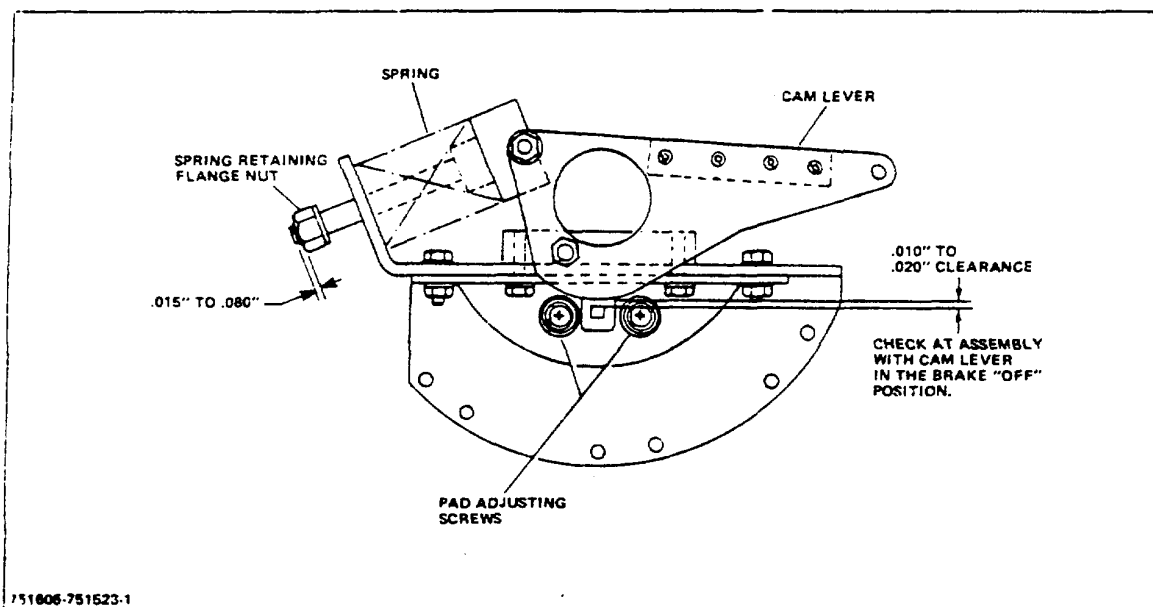
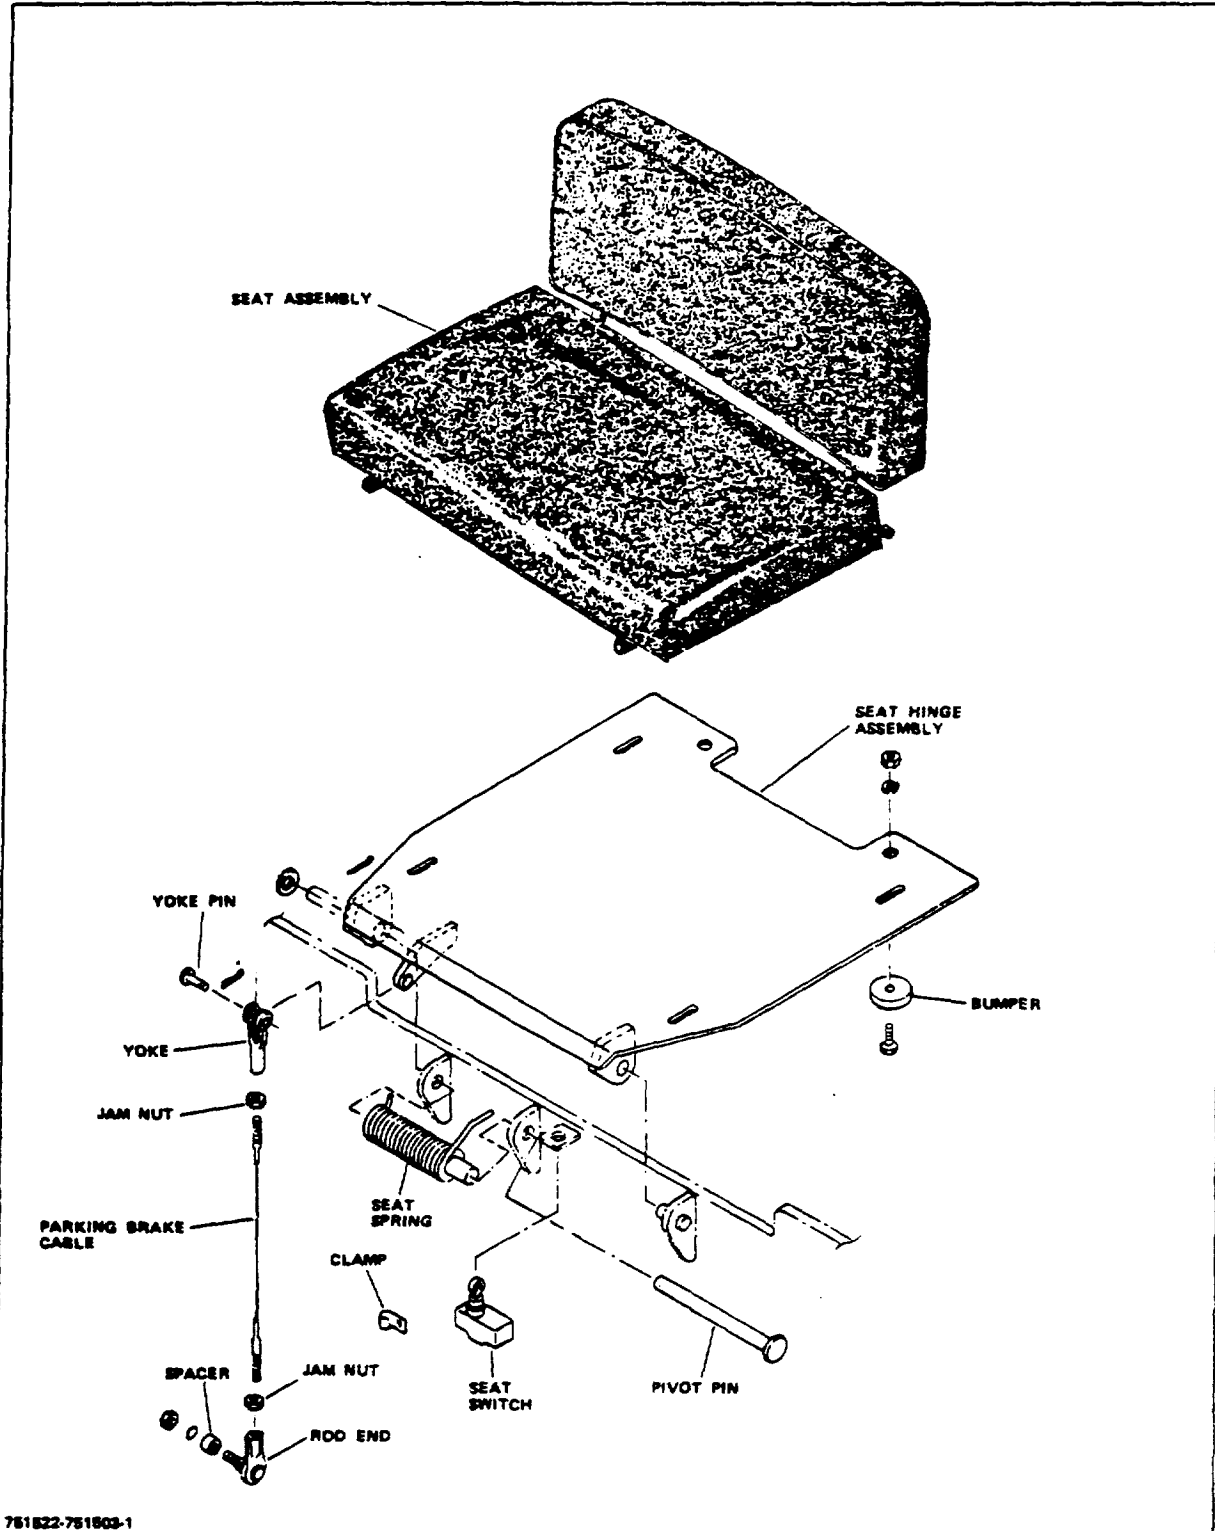
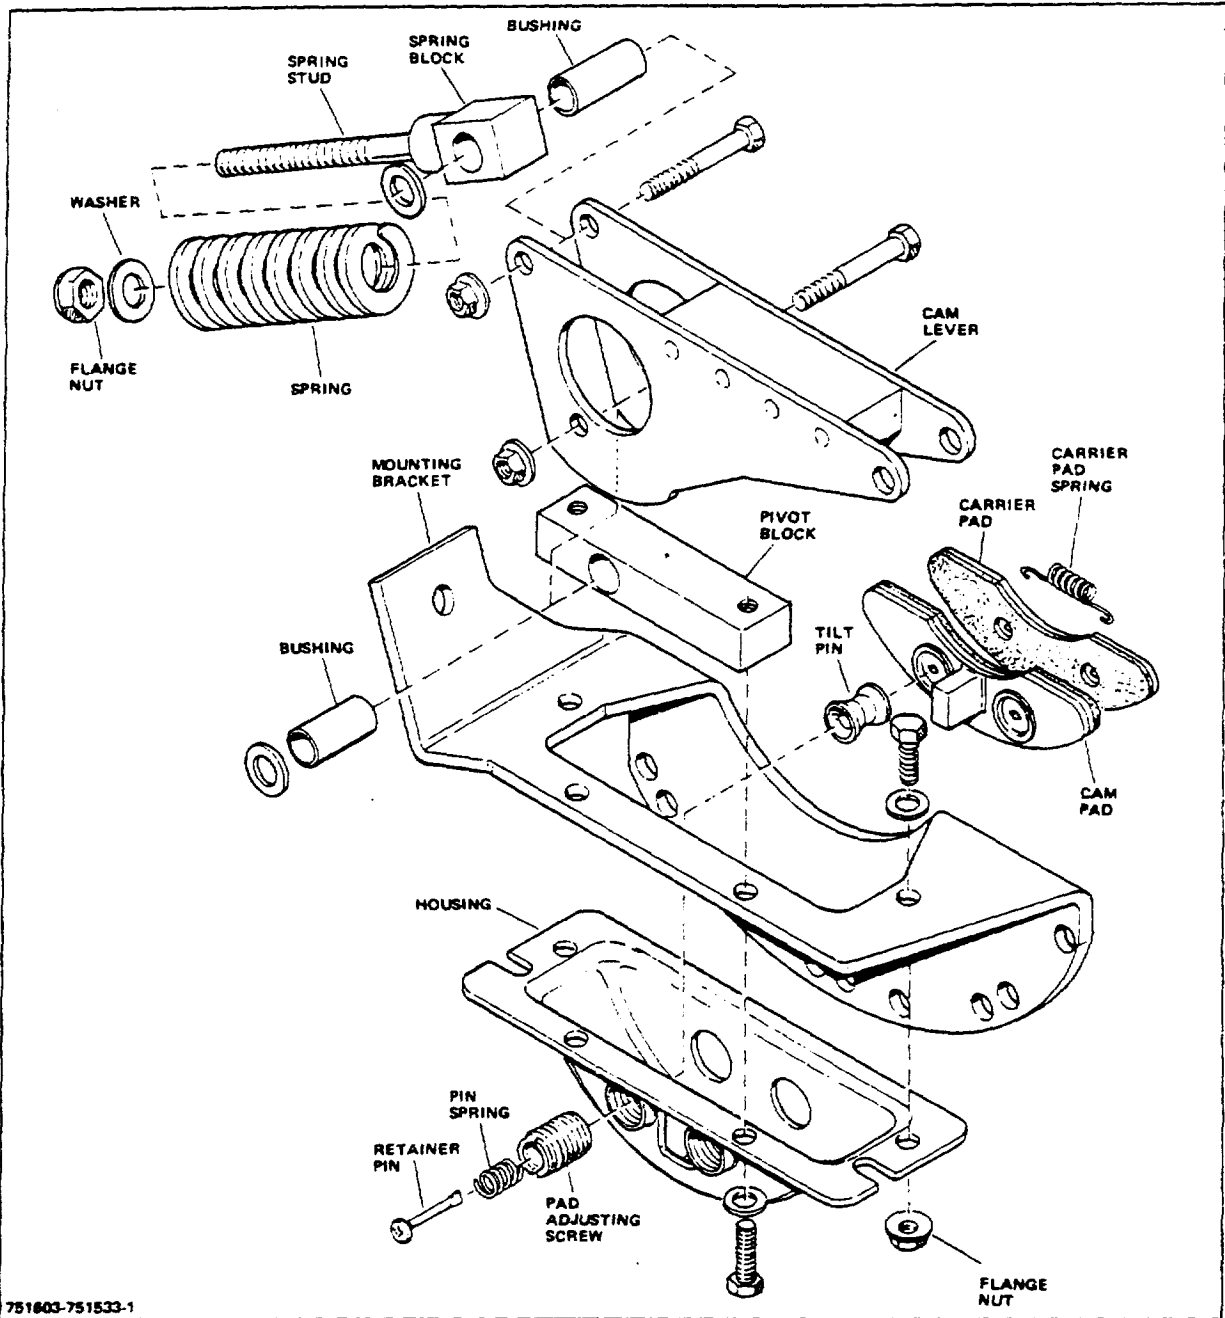

Figure 4-2. Parking Brake Adjustment
Figure 4-3. Parking Brake Cable and Seat Assembly
Figure 4-4. Disc Brake Assembly
adjustment, release parking brake by tightening the spring retaining flange nut (Fig 4-2) so the cam lever is in the BRAKE OFF position.
- Use a large screwdriver and adjust the pad adjusting screws (Fig 4-2) until screws are tight and brake pads contact the disc; then back off screws 1/4 turn.
- Back off the spring retaining flange nut until it is .015" to .080" from end of stud (Fig 4-2);
- Tighten spring retaining flange nut (Fig 4-2) until end of the cam lever moves upward enough to release tension on the parking brake cable. Then remove yoke pin (Fig 4-3) and yoke from the seat hinge assembly.
- Loosen jam nut and turn yoke clockwise to shorten cable length or counterclockwise to lengthen it. (For further adjustment, perform same adjustment at the rod end (Fig 4-3) of cable).
- Back off the spring retaining flange nut until it is .015" to .080" from end of the stud (Fig 4-2).
The seat switch (Fig 4-3) must be adjusted so the base of the seat hinge assembly contacts the switch roller when the seat cushion is fully depressed.
2. Tighten spring retaining flange nut (Fig 4-2) on the stud so large spring is compressed and the cam lever is in the BRAKE OFF position.
3. Remove nut, lockwasher, and spacer and disconnect rod end (Fig 4-3) from the cam lever.
After the disc is removed from the brake pad area, do not attempt to loosen the spring retaining flange nut (Fig 4-2) on the stud, otherwise damage could result to the retainer pins (Fig 4-4). Back off the spring retaining flange nut only after the disc brake assembly is installed on the motor with the disc in place.
When brake pads are replaced, remove the carrier pad (Fig 4-4) first.
2. Insert Phillips screwdriver into head of retainer pin (Fig 4-4). Hold cam pad in position with one hand and press down on retainer pin; turn retainer pin 90° to release it through slot in cam pad. Slowly withdraw screwdriver until spring tension is released; then remove retainer pin and pin spring from inside of pad adjusting screw. Repeat procedure for removal of the other retainer pin and pin spring.
and top of boss on cam brake pad; it should be .010" to .020" as shown in Figure 4-2.
2. Use a large screwdriver and adjust pad adjusting screws (Fig 4-2) until screws
3. Connect rod end (Fig 4-3) to cam lever and install spacer, lockwasher, and nut securely.
4. Back off the spring retaining flange nut until it is .015" to .080" from end of stud (Fig 4-2).